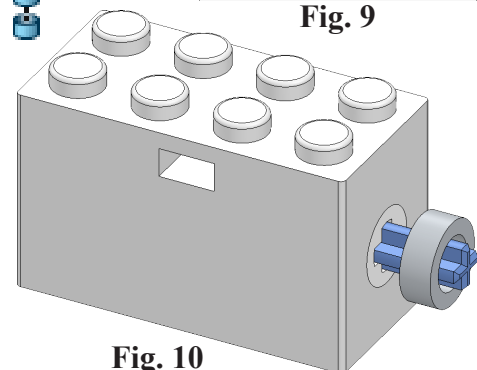

Fig. 10
Step 4. In the graphic area position **Washer** over a cylindrical face of **Lego Axle**, **Fig. 10**. When **Washer** snaps into place and cursor changes to indicate **Concentric mate** , click to release **Washer**.